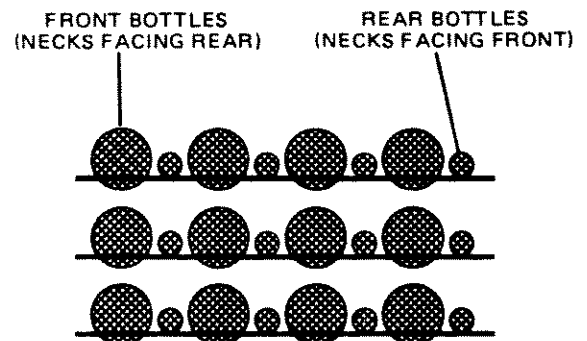

Figure 3
- Insert Wine Bottles:** The top two racks each hold six bottles, two deep with the necks alternating front (rear bottles) to back (front bottles), see figure 3. The middle four racks each hold eight bottles, two deep with necks alternating front (rear bottles) to back (front bottles). The bottom rack holds six bottles and are loaded with necks facing the rear. Tall bottles should not be loaded on the bottom rack because they may prevent the door from closing.